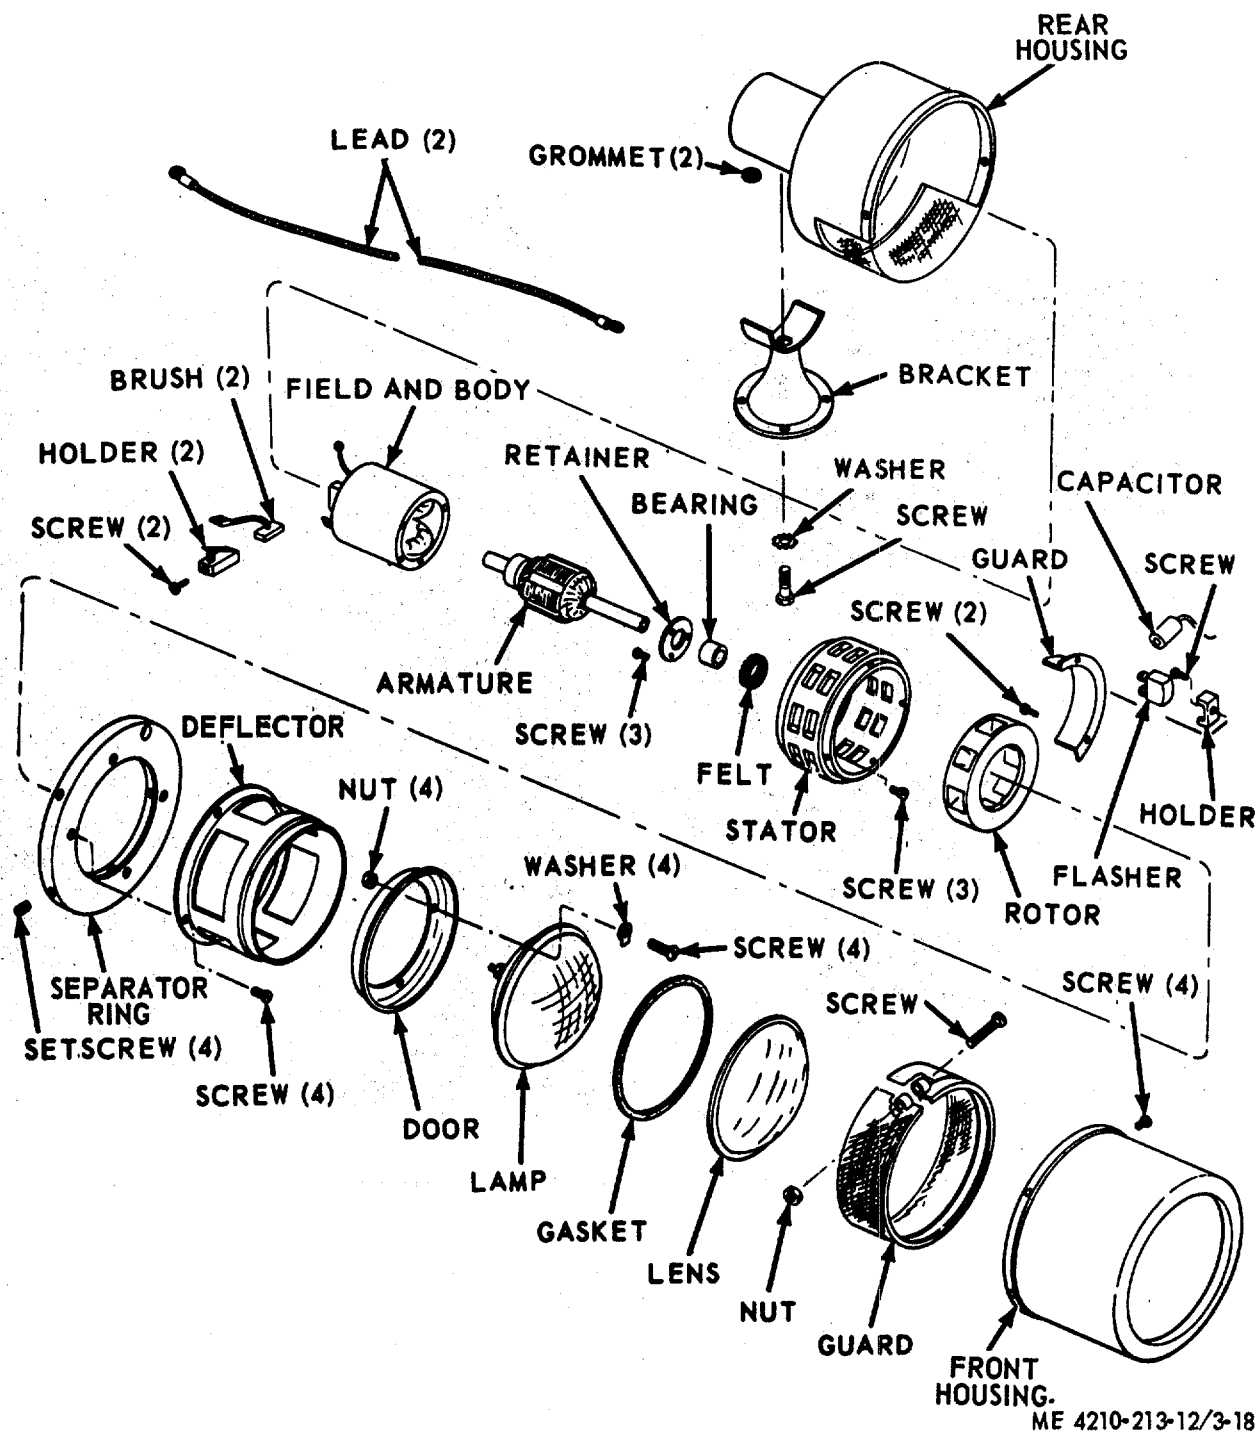

Figure 3-18. Siren and flasher light, exploded view.
b. *Disassembly.* Refer to figure 3-18 and disassemble the siren and flasher light.
(1) Clean all parts with a clean cloth dampened in an approved cleaning solvent, and dry thoroughly.
(2) Inspect all parts for damaged or defective condition.
(3) Replace or repair damaged or defective parts as necessary.